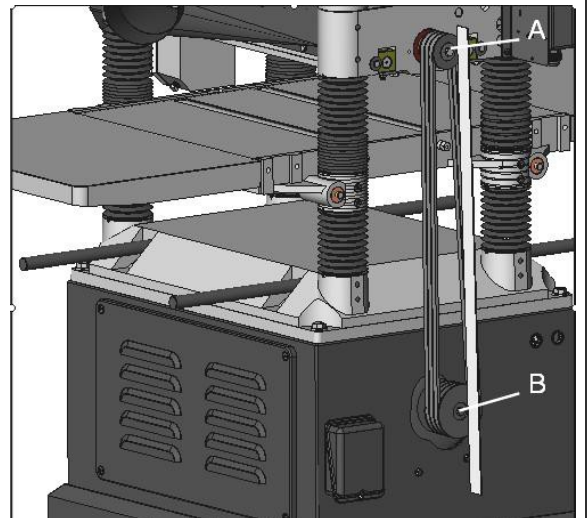

Fig. 6
To verify that motor pulley (B) is in line with the shaft pulley of (A), using the edge of a straight scale check to see if they are on-line with each other (Fig. 6).